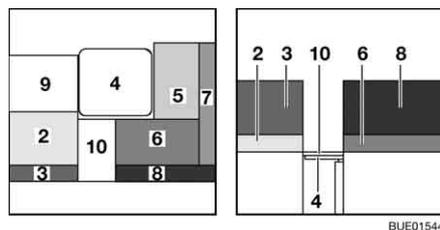

Fig. 140 During conversion
- Fold the seat box extension (Fig. 140,10) upwards and hook onto the vario seat.
- Fold the vario seat extension (Fig. 140,9) upwards and hook.
- Remove the back cushion (Fig. 140,7) and lay it aside.
- Remove the seat cushion (Fig. 140,5) and lay it aside.
- Place the back cushion (Fig. 140,7) between the L-seating group and the vario seat.